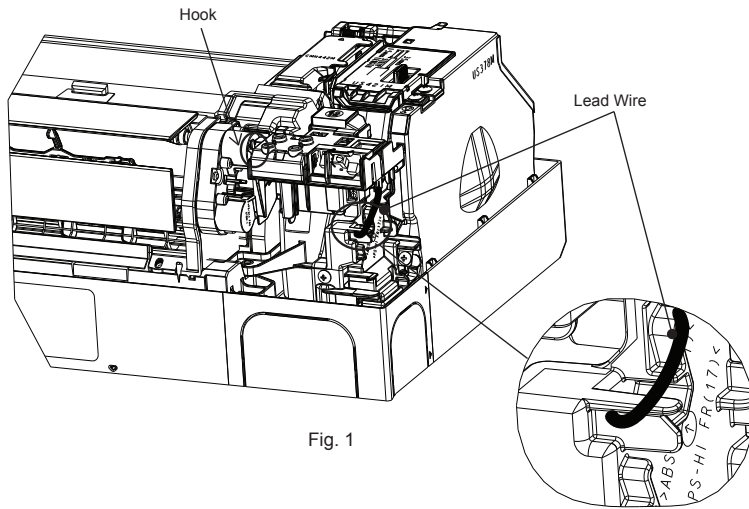

Fig. 1
- 2) Take out the lead wire out of the hook. (Fig. 1)